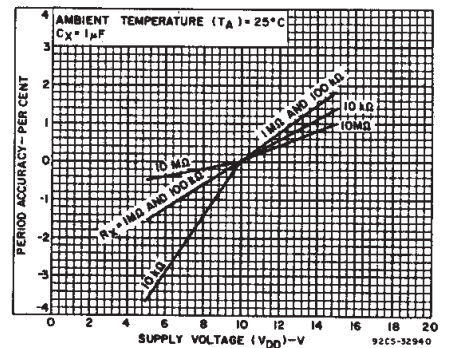

Fig. 11—Typical astable oscillator or Q,  $\bar{Q}$  period accuracy vs. supply voltage.
**B. Variations Due to  $V_{DD}$  and Temperature Changes** — In addition to variations from unit to unit, the astable period varies with  $V_{DD}$  and temperature. Typical variations are presented in graphical form in Figs. 11 to 18 with 10 V as reference for voltage variation curves and 25°C as reference for temperature variation curves.